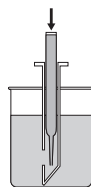

Fig.4
6. Immerse the snapper into the sample and push the ampoule in order to snap off the tip. The ampoule will fill with the sample then press <Start>. (Fig.4)